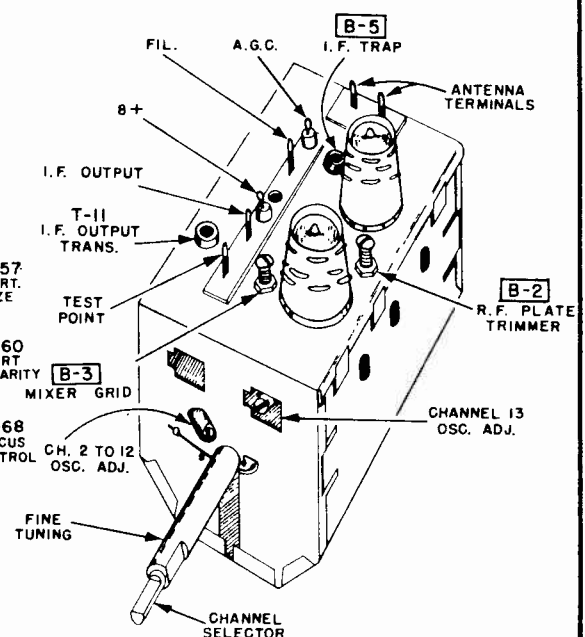

FIG. NO. 1 ALIGNMENT POINTS VHF TUNER 470938
2. Adjust channel No. 13 oscillator adjustment, (See Figure No. 1) for best picture and sound. Use a non-metallic screwdriver.
3. Channels No. 2, No. 4 and No. 6 have slug adjustments and should always be adjusted starting with the higher channel. (See Figure No. 1). It is recommended that channels No. 13, No. 6, No. 4 and No. 2 slugs, only, be adjusted in the field in that order when necessary.
4. Channels No. 12 through No. 7 can be adjusted if required by bending the hair pin inductances through the hole provided (See Figure No. 1).